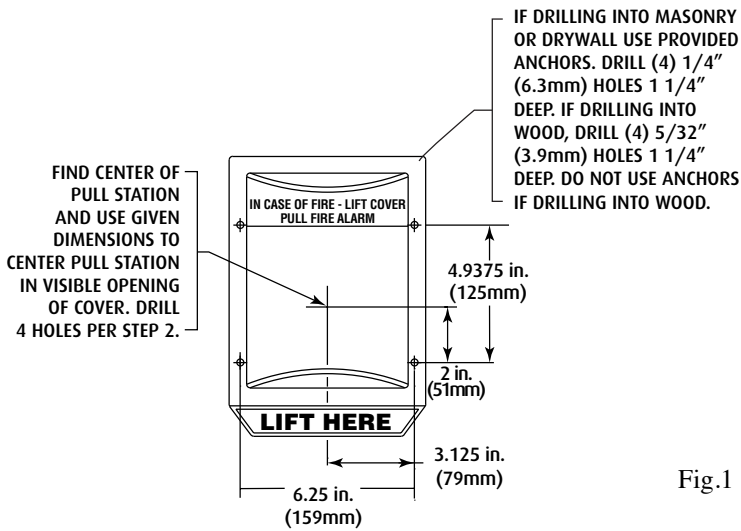

Fig.1
1. The power switch is in the “OFF” position (Fig. 5). Using frame or optional STI-1280 backplate (recommended with all Weather Stopper® models) as a template, mark mounting holes on wall taking into consideration placement of pull station or refer to Fig. 1 for dimensional hole placement from center of clear opening. **NOTE:** Be sure cover will not interfere with operation of the pull station when installed.